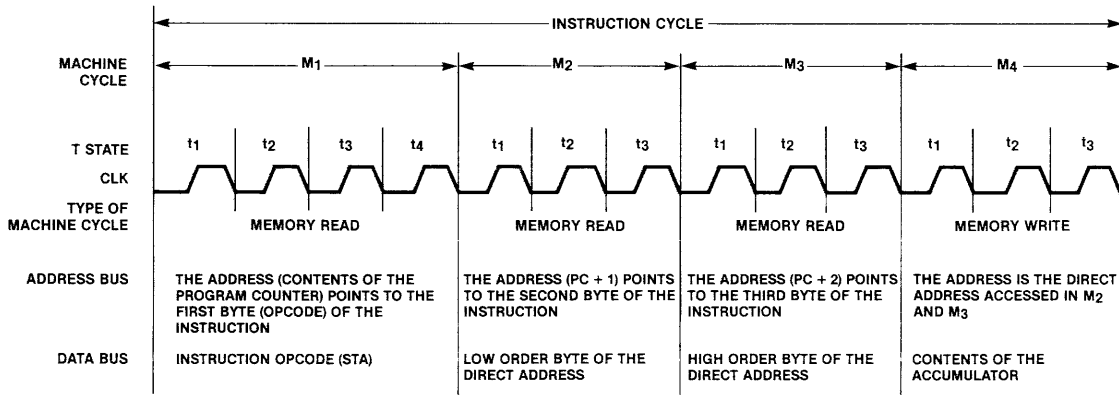

Figure 4-3. Typical CPU Instruction Cycle
Figure 4-3 is presented to show the relationship between an instruction cycle, machine cycle, and T-state. This example shows the execution of a Store Accumulator Direct (STA) instruction involving on-board memory. Notice that for this instruction the opcode fetch (machine cycle  $M_1$ ) requires four T-states and the remaining three cycles each require three T-states.
- Places low-order bits (PCL) of program counter onto address/data lines AD0-AD7. These address bits will remain true for only one clock cycle, after which AD0-AD7 go to their high-impedance state as indicated by the dashed line in figure 4-3.